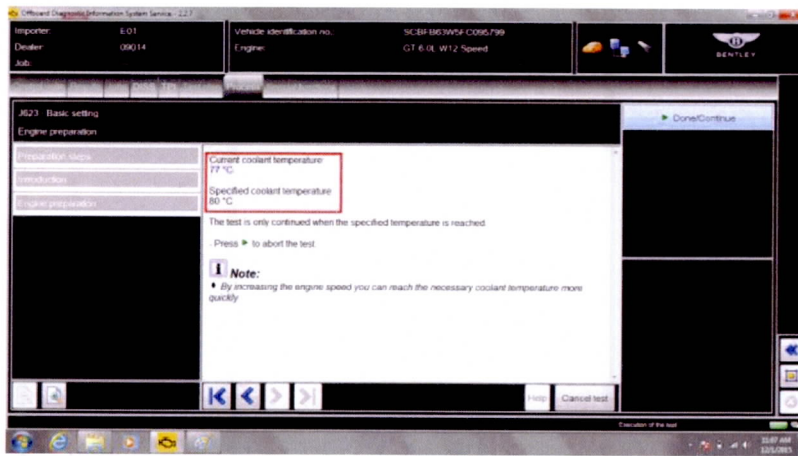

Figure 15
4. Allow engine coolant temperature to rise above 80°C (see Figure 15)